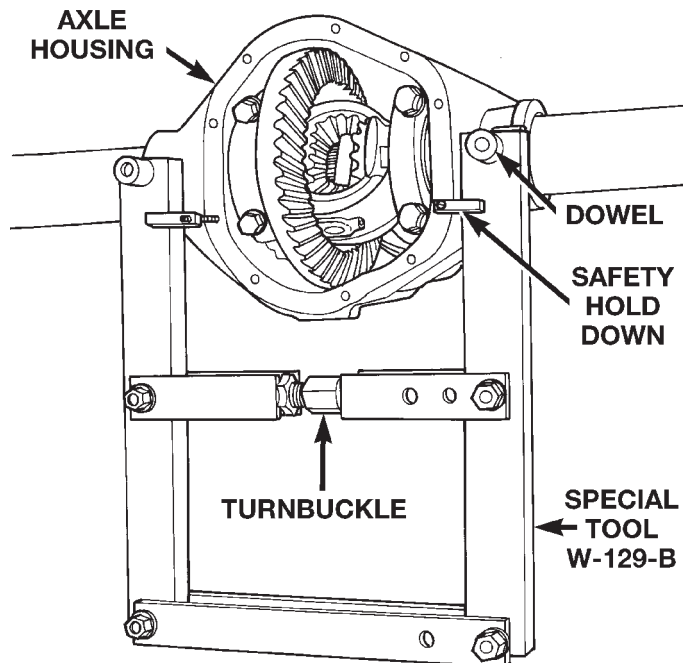

Fig. 24 Install Axle Housing Spreader
- (6) Loosen the differential bearing cap bolts.
- (7) Position Spreader W-129-B, utilizing some items from Adapter set 6987, with the tool dowel pins seated in the locating holes (Fig. 24). Install the hold-down clamps and tighten the tool turnbuckle finger-tight.
- (8) Install a Pilot Stud C-3288-B at the left side of the differential housing. Attach Dial Indicator C-3339 to pilot stud. Load the indicator plunger against the